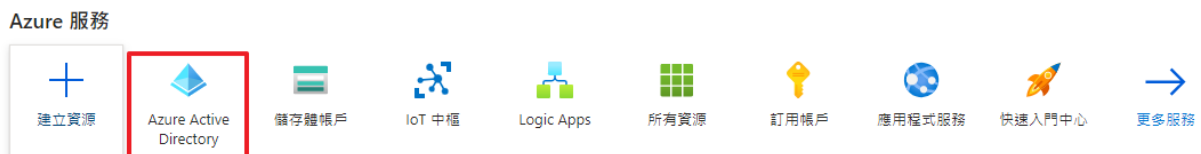

Figure 4-77 Azure Active Directory
First, go to the homepage of the Microsoft Azure development platform and log in to your Microsoft account. Then, click on the Azure Active Directory icon (as shown in Figure 4-77).
2. Click on the Azure Active Directory icon (as shown in Figure 4-77).